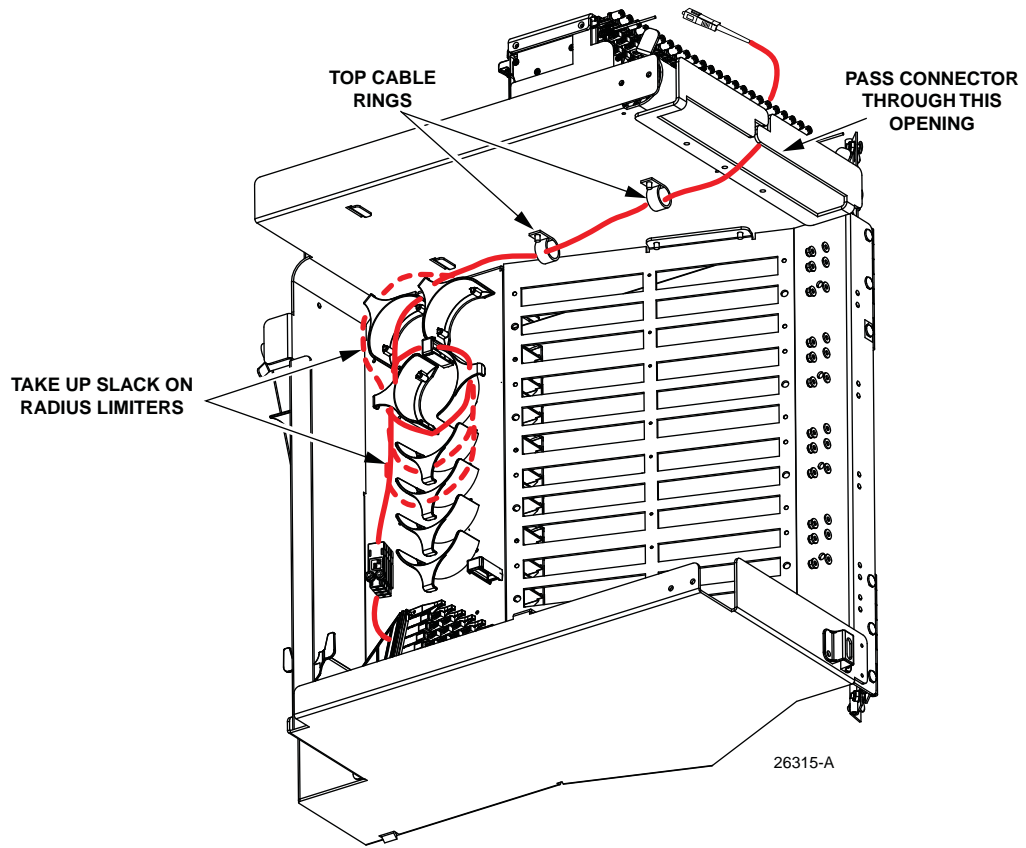

Figure 37. Re-Routing the Feeder Cable Fiber
7. When the feeder cable connector and fiber are free, pass the connector through the opening located behind the splitter compartment as shown in Figure 37.